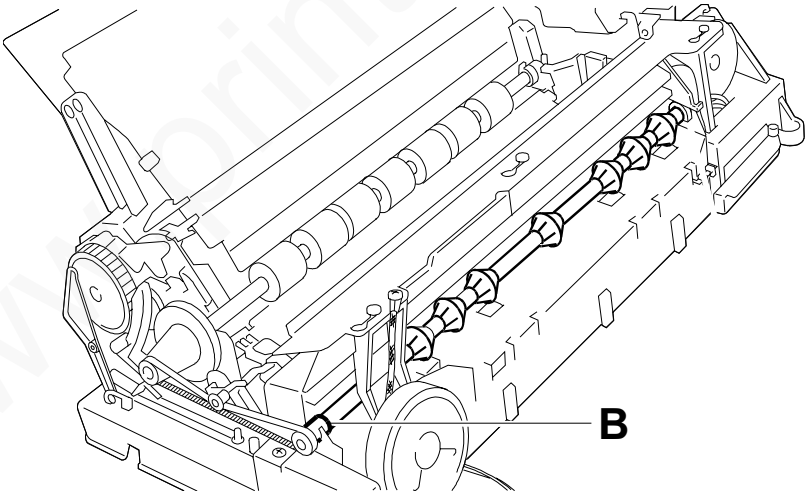

Fig. 7-43
- 2) Remove left bushing **B** from its housing, then extract the shaft leftward (Fig. 7-43):